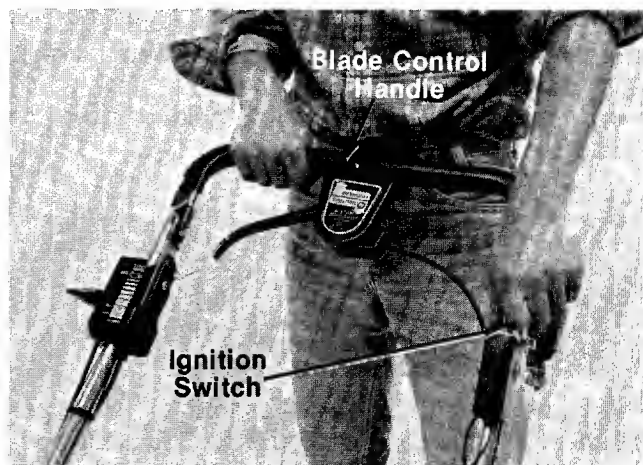

FIGURE 19.
2. Standing behind the unit, depress the blade control handle and hold it against the upper handle as shown in figure 19.